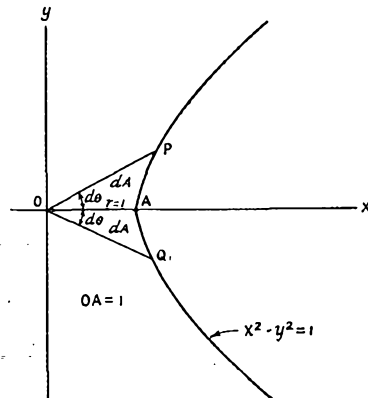

Fig. 3 — The unit equilateral hyperbola.
Fig. 3 gives a unit rectangular hyperbola, its axis lying on the  $x$  axis and its vertex at the point  $(1, 0)$ . Again the area  $POQA$  will be twice the area  $POA$ . The area  $POQA$  will be designated as  $du$ . From equation (8),